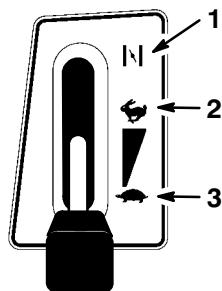

Figure 9
5. Move the throttle lever to Choke (Fig. 9).
7. After the engine starts, slowly move the throttle lever to Fast (Fig. 9). If the engine stalls or hesitates, move the throttle lever back to Choke for a few seconds. Then move the throttle lever to Fast. Repeat this as required.
1. Move the throttle lever to Fast (Fig. 9).